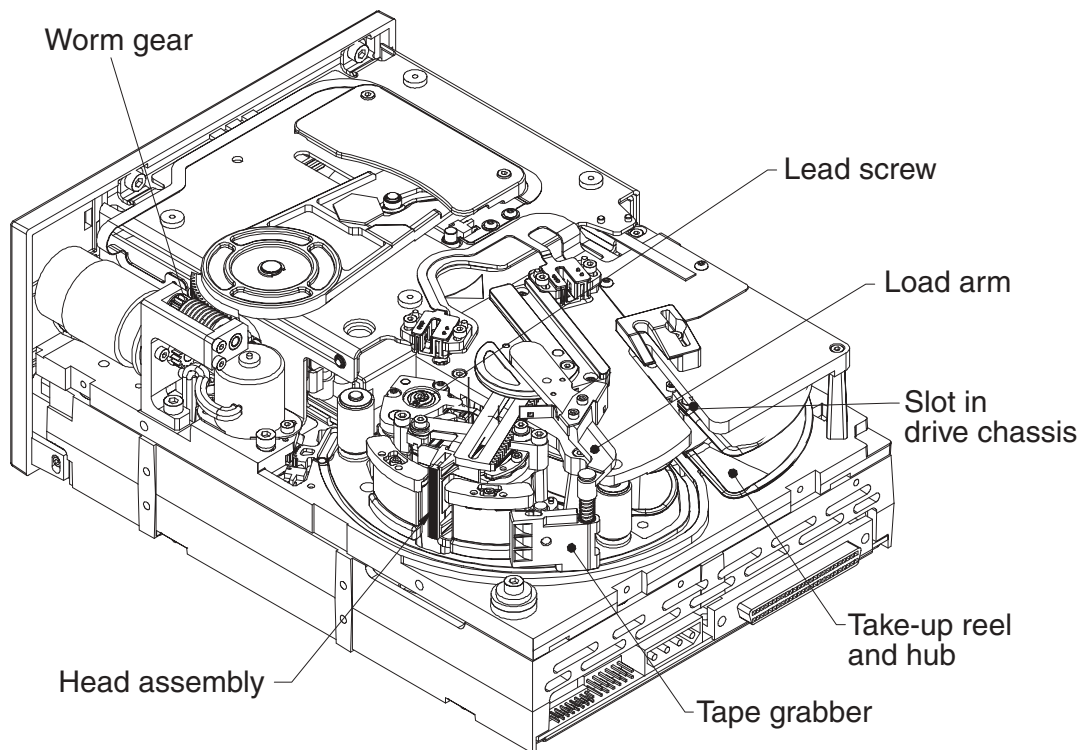

Figure 23. LTO-1 and LTO-2 Drive Key Components
If the cartridge is loaded and seated, and the tape is entirely or partially threaded into the drive, follow these steps. To perform these steps you will need a small, flat-blade screwdriver and a 1.5-mm hex wrench. Figure 23 on page 79 shows key components of the drive mechanism that are referred to in the following procedure.
6. Rotate the hub to align the slot in the hub with the slot on the drive chassis (see Figure 23 on page 79).